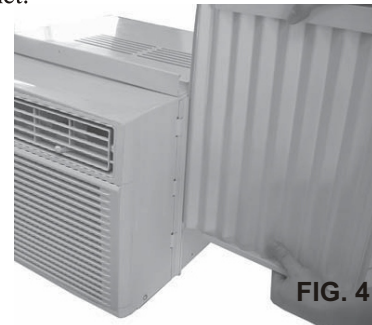

FIG. 4
B. Slide the free end of the panel into the cabinet as shown in Figures 4. Slide the panel down. Be sure to leave enough space to slip the top and bottom of the frame into the rails on the cabinet.